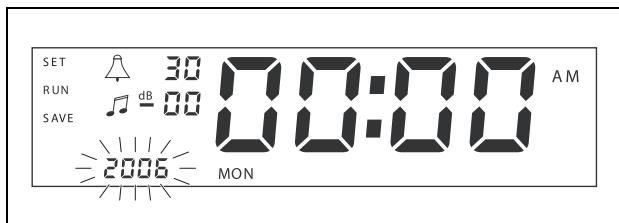

figure 5.1: Starting the date and time set-up sequence
- 2 Press and hold in the Set button until the year starts to flash (see figure 5.1).